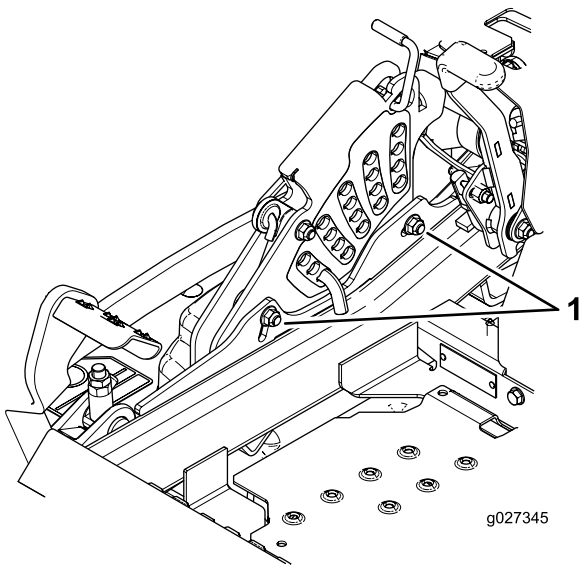

Figure 95
12. To adjust the single point system, loosen the two bolts at the bottom of the height-of-cut plate. Refer to Figure 95.
14. Tighten the 2 bolts at the bottom of the height-of-cut plate (Figure 95). Torque them to 37 to 45 N·m (27 to 33 ft·lb).